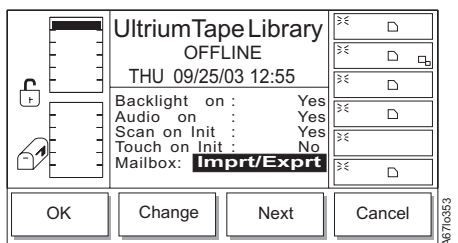

Figure 14-50. Config I/O Station Dialog
- If the button beneath the **Next** softkey is pressed, the next field in the list is made active. If the next field is the last field, the Config I/O Station Dialog is displayed (see Figure 14-50).